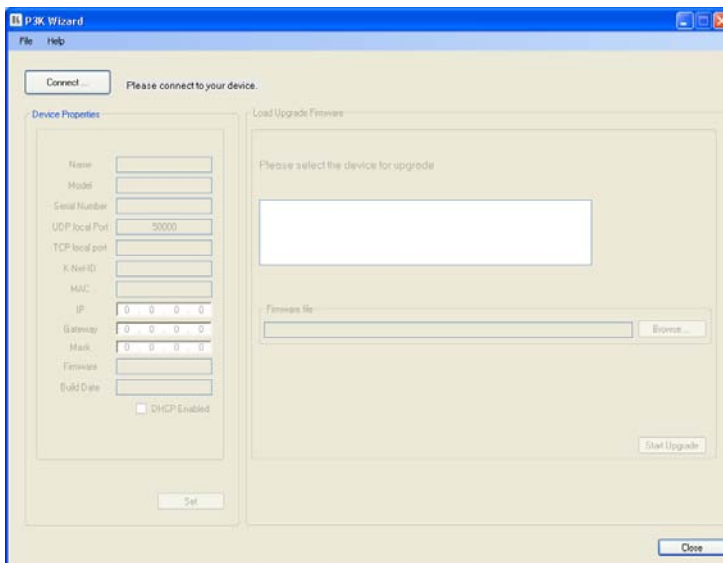

Figure 25: P3K Wizard Screen
- Open the P3K Wizard (see Figure 25).